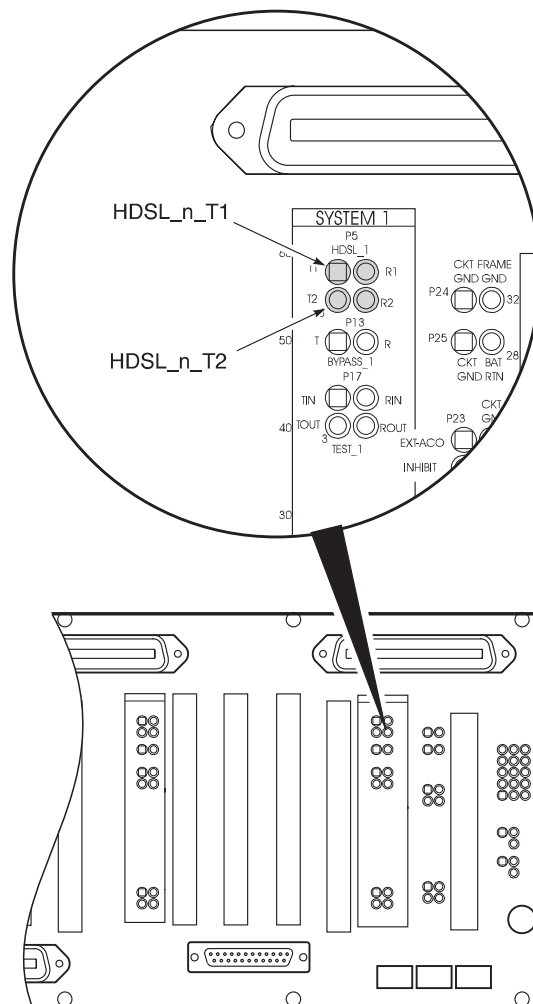

Figure 6. Connecting the HDSL Lines
8.4 HDSL Lines. Connect the HDSL lines (Figure 6). Note that n is: